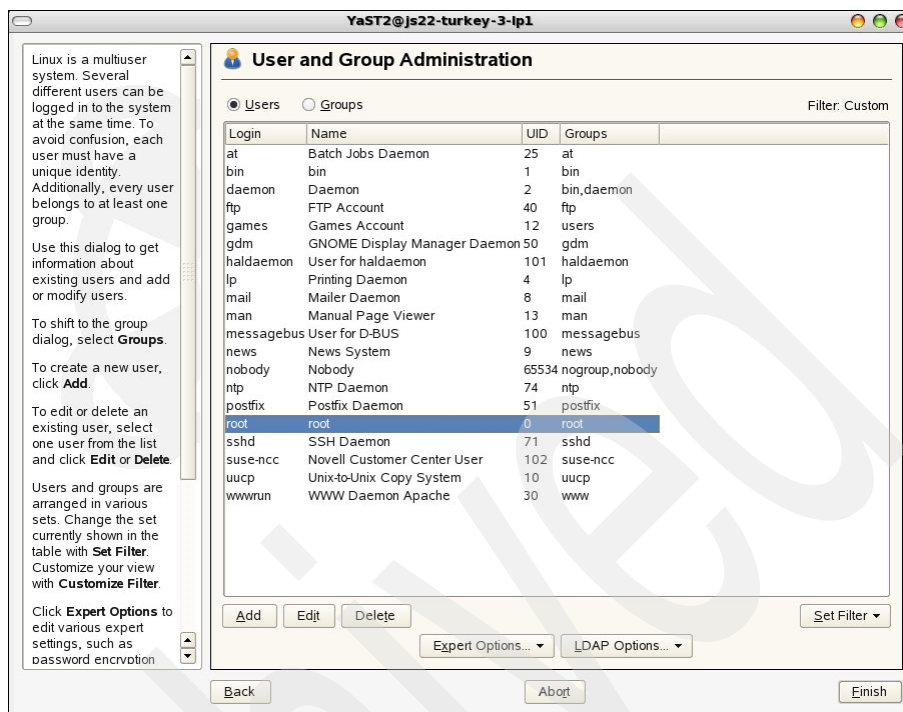

Figure C-8 Configure the root user
- iii. Select **Users**, high-light **root** and its row, and change the Filter to **System Users** by clicking the **Set Filter** drop-down button as shown in Figure C-8 on page 440.